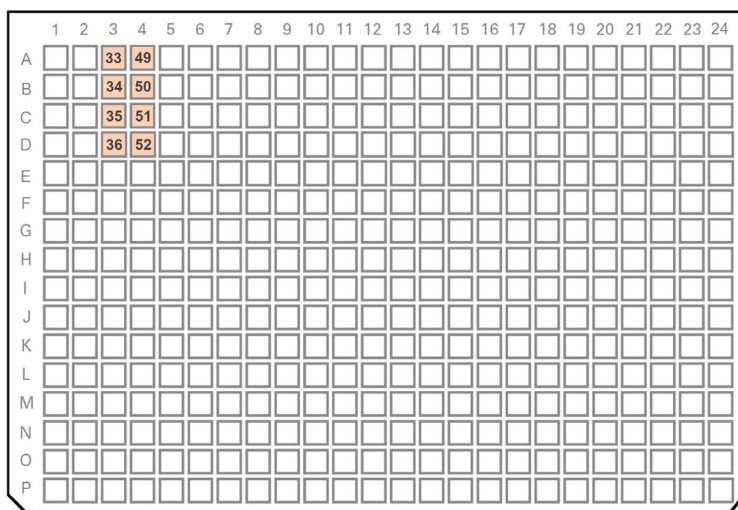

Figure 21. 384-Well Source Plate map for PCR1 master mix dispense. Wells A3–D4 (labeled 33–36, 49–52) are filled for the "Dispense PCR" step (Step 3).
2. Pipette 80 µl of the PCR1 master mix per well to a fresh 384-Well Source Plate in wells A3, A4, B3, B4, C3, C4, D3 and D4 (Figure 21). Directly add to the bottom of the wells without trapping bubbles at the bottom or leaving the liquid on the well walls.